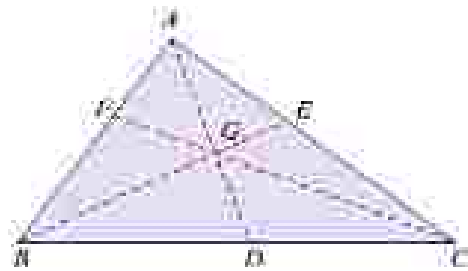

Fig. 6.2. Triangle
3. The centroid of a triangle is at the point, where the three medians (a median is a line connecting the vertex and middle point of the opposite side) of the triangle meet as shown in Fig. 6.2.